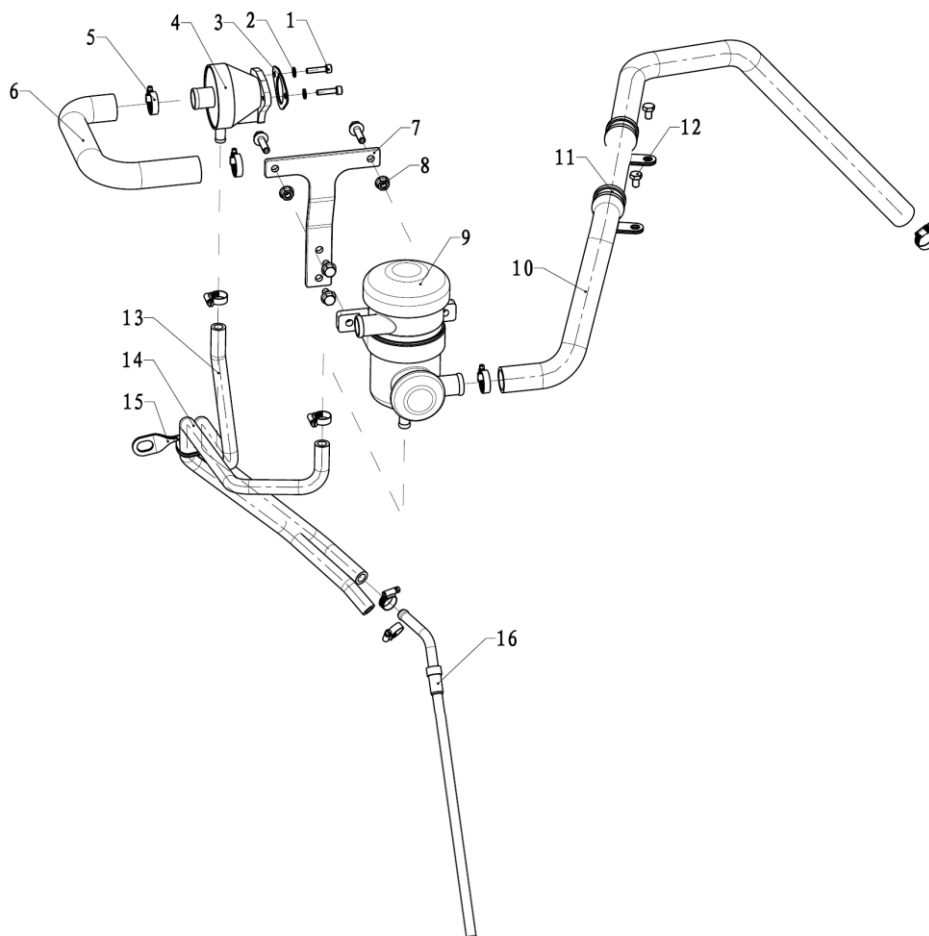

Fig. 4-4 Oil-gas separator subassembly and installation location schematic
- For further disassembling of oil-gas separator, refer to the fig. 4-4.